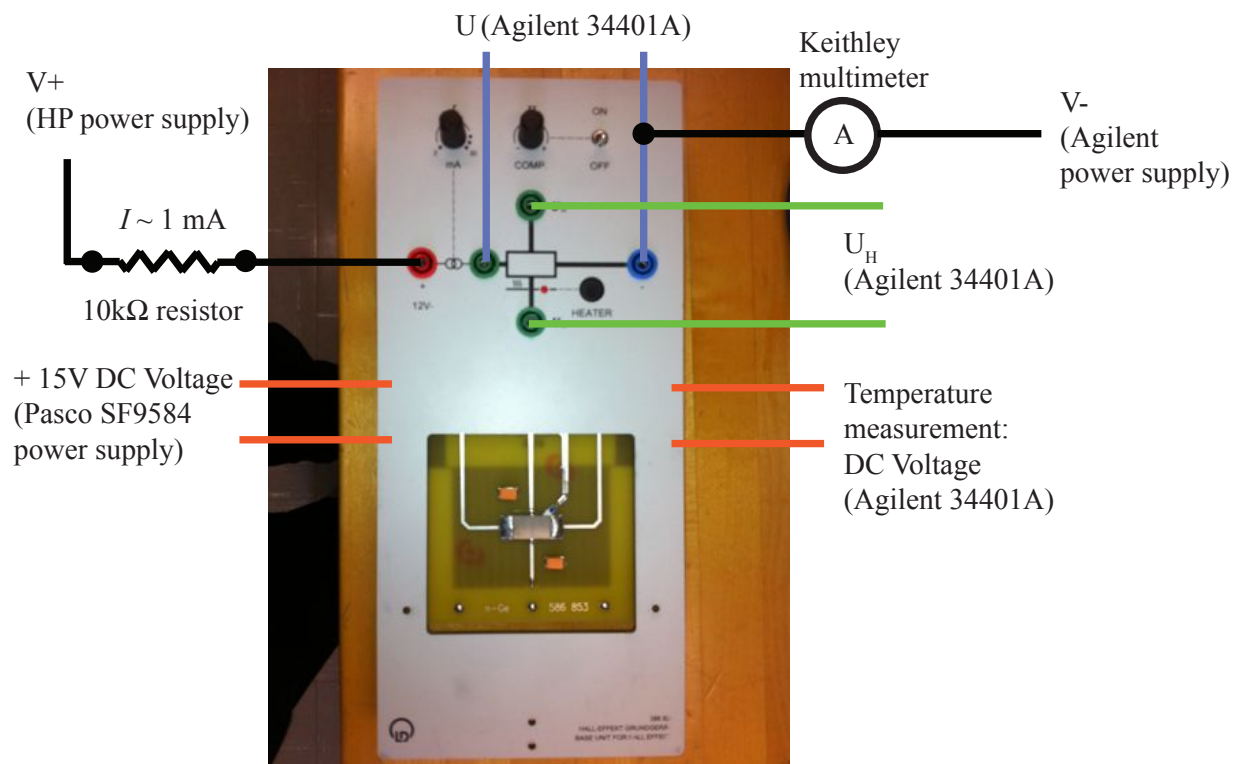

Figure 2: Wiring diagram for Hall voltage measurement
1. Choose either the p -type or n -type sample and connect it to the electronics as shown in figure 2 to measure the longitudinal voltage U . **Ensure that a $10\text{k}\Omega$ current limiting resistor is connected in series with the sample. This will protect the sample from excessive current damaging the sample.**